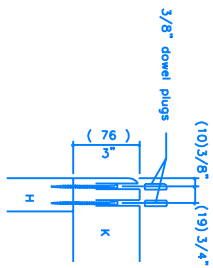

FIGURE 4
3) Using a 1/8" drill bit, drill through pieces K and countersink these holes to a depth of 1" with a 3/8" bit as shown (Fig 4). Glue the tops of pieces H and screw through the holes in K, K to H with eight #8 3" flathead screws. Glue and insert eight 1" dowel lengths of 3/8" into the holes (Fig 4). Cut off the excess dowel. Round the corners with either a jig saw, or cut off at 45° with a hand saw, and sand smooth. Repeat this procedure to attach pieces J to the other bottom of H, only the 3/8" countersink hole should only be 1/2" deep on bottom rolls and use eight #8 3" flathead screws.